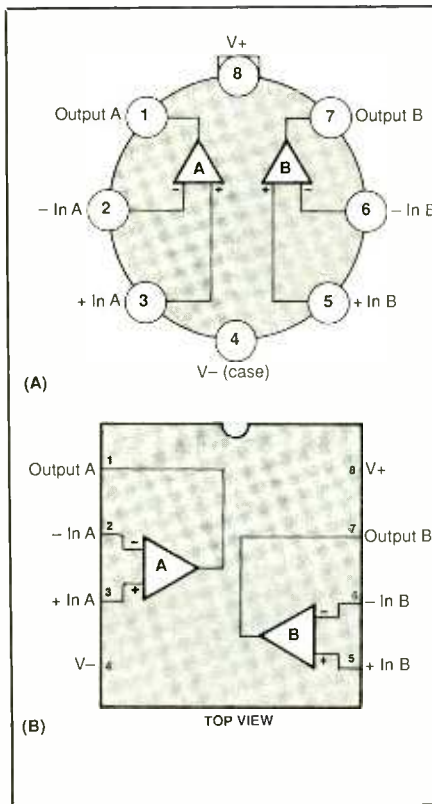
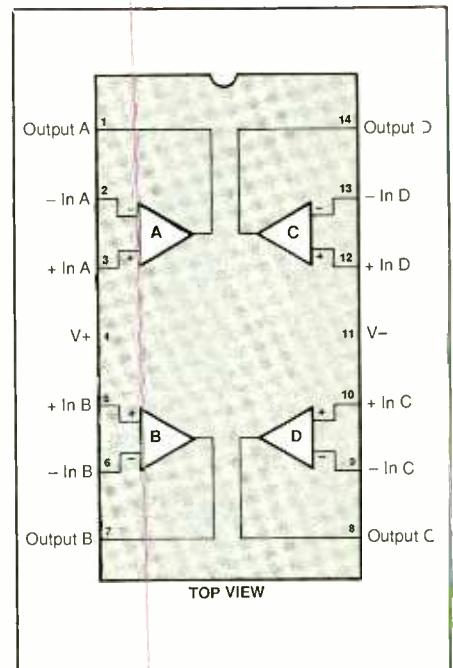

Fig. 1. Pinouts for LT1013 op amp in metal "can" (upper) and more familiar DIP package (lower).
Fig. 2. Pinouts for LT1014 op amp in standard 14-pin DIP package.
Figure 1 shows pin connections for the LT1013 in both the "metal-can" (H) package and the familiar dual-inline (DIP) package. Figure 2 shows the pin connections for the LT1014. The accompanying table gives specifications for both devices measured at dual polarities (± 15 volts).